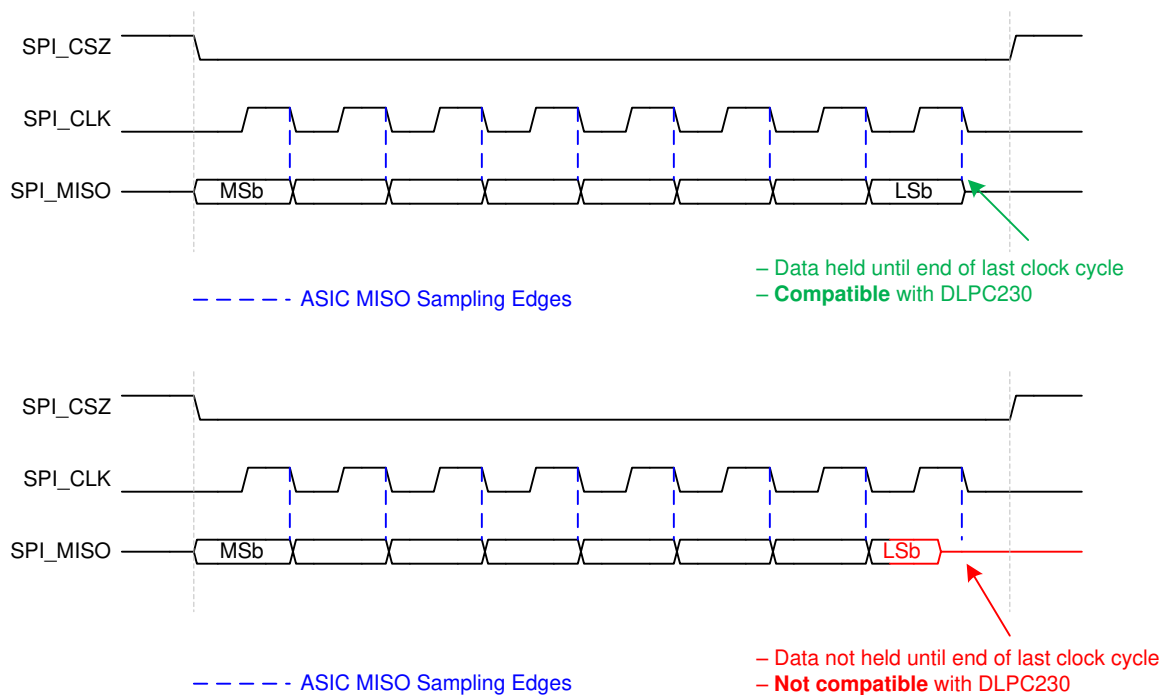

図 5-8. Flash Interface Data Capture Requirements
- (1) The DLPC23x-Q1 communicates with flash devices using a slight variant of SPI Transfer Mode 0 (that is, clock polarity = 0, clock phase = 0). Instead of capturing MISO data on the clock edge opposite from that used to transmit MOSI data, the DLPC23x-Q1 captures MISO data on the same clock edge used to transmit the next MOSI data. As such, the DLPC23x-Q1 Flash SPI interface requires that MISO data from the flash device remain active until the end of the full clock cycle to allow the last data bit to be captured. This is shown in 図 5-8.
- (2) The actual maximum clock rate driven from the DLPC23x-Q1 can be slightly less than this value.